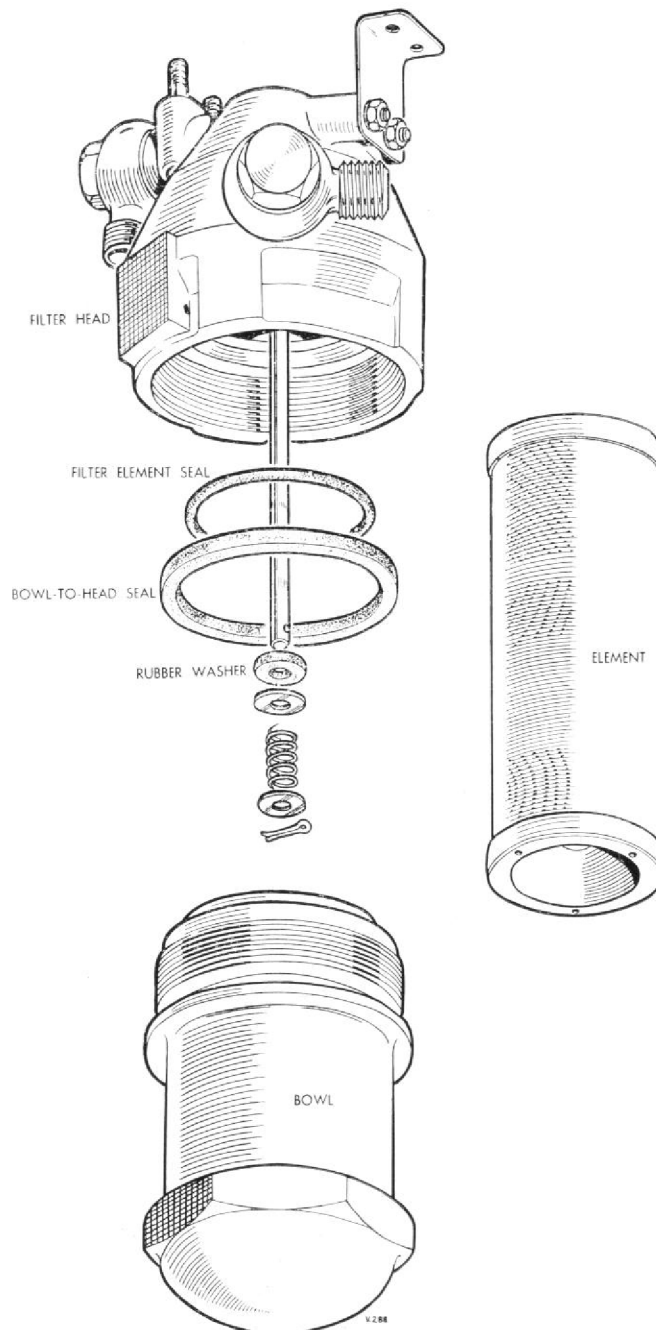

Fig. 3. Purolator high pressure fuel filter.
1. Using the large end of spanner T.73692 with tommy bar T.73693 unscrew and remove the bowl of the filter, Fig. 3.